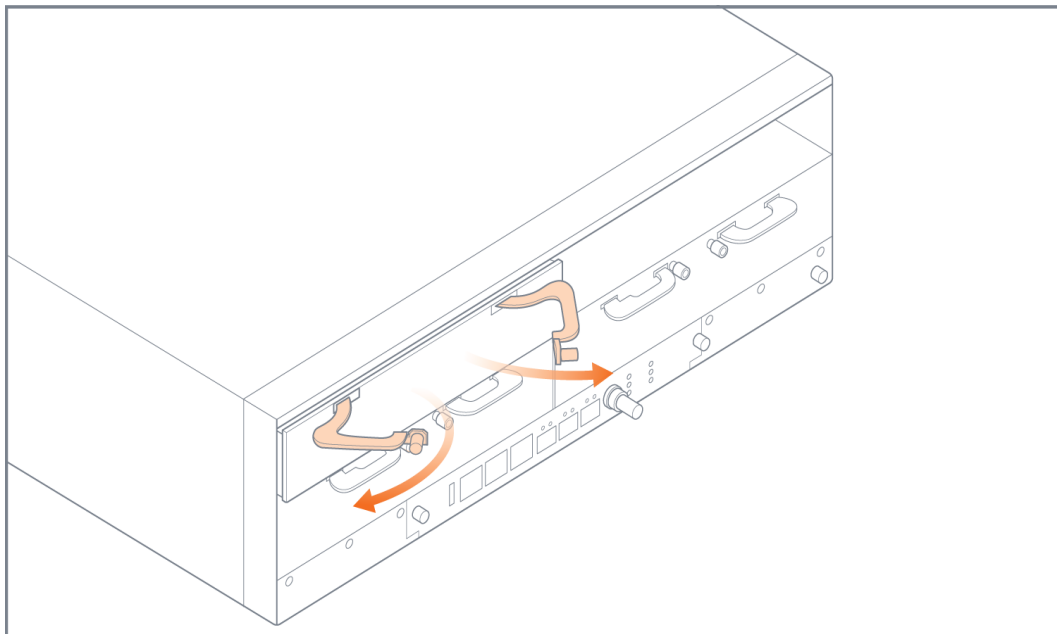

Figure 3-9: Filler Panel Levers
5. Open the levers on a filler panel as shown in Figure 3-9 on page 66.